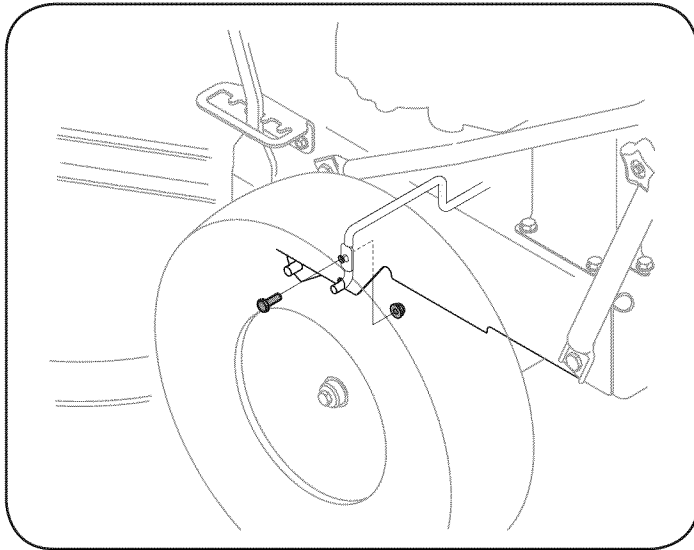

Figure 27
5. Remove the screw and flange nut which secures the belt keeper rod to the left side of the mower's frame. See Figure 27.
3. Remove the belt keeper as instructed earlier in this section. Refer to Figure 27 on page 23.